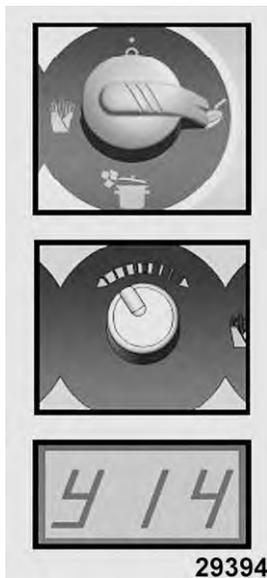

Fig. 34
1. Turn mode selection button to any mode other than "OFF" (Griddle, Boil, or Fryer) Refer to Fig. 34.